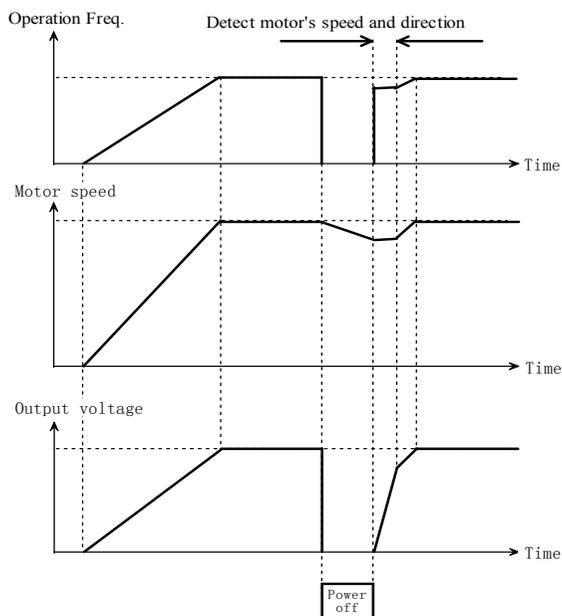

Fig. 5-1-2 Speed tracking restart diagram
- ◆ Speed tracking restart: Search and catch the motor's running direction and speed, and then start at the caught speed, running to the reference frequency within the Acc/Dec time, realize smooth start of motor, as shown in Fig. 5-1-2. This mode is suitable for the motor with big inertial load.